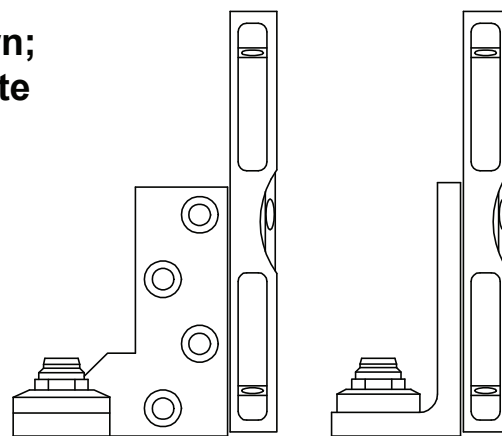

Figure 1
1. Prepare and mortise bottom of door and side jamb to receive pivot set. Determine pivot location using dimensions on reverse side. Be sure to properly locate and mark center point of the jamb leaf spindle. Care must be taken to ensure that jamb leaf is completely level. Place level against jamb leaf surfaces as shown in Figure 1. The bottom pivot set is handed. Hand of pivot must match hand of door. To determine hand of door, see diagrams above.